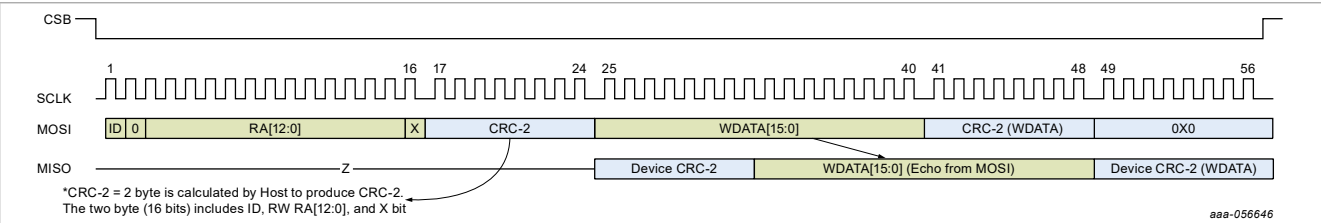
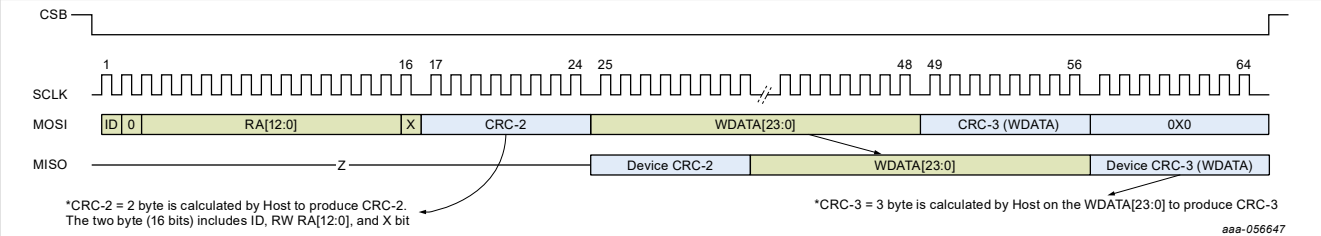

Figure 16. Host writes to register 16-bit with CRC enabled
Figure 17. Host writes to register 24-bit with CRC enabled
Figure 16 and Figure 17 show host writes 16-bit and 24-bit internal register respectively. There are two CRC bytes sent from a host named CRC-2. The first CRC byte is calculated by the host from the first 16-bit data word, which includes device ID bit, RWL bit, RA bits, and do not care bit (0). The second CRC byte is calculated from the 16-bit WDATA[15:0] or WDATA[23:0] if the host writes to the 16-bit register or 24-bit register, respectively. There is always an extra empty byte (eight extra SCLKs) required to send after the second CRC byte. The device needs extra clocks to check/verify with the on-chip CRC logic if the data sent by the host is not corrupted. After the CRC byte is received and a match is found with the device-calculated CRC, then the register update will take place. The controller can decide to drive an extra seven more clock cycles to receive the calculated CRC data from the device or it can terminate the SPI frame by deasserting the CSB to high without affecting the register being updated.